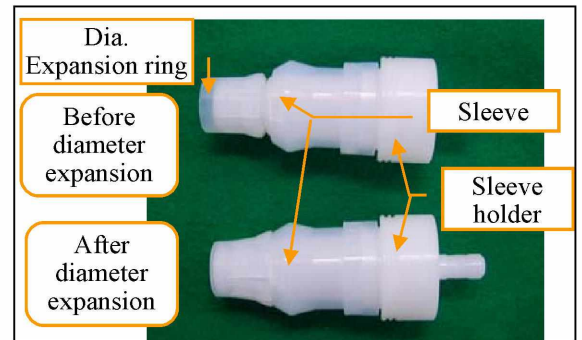

Fig. 16 - Setting the sleeve
- Install to insertion tool JT-A4 the sleeve holder and then the sleeve as shown in Fig.16 for the state before the diameter has been expanded.
- After setting the sleeve, push the diameter expansion ring into the sleeve until it clicks in place (see Fig.16 for the state after the diameter has been expanded and Table for applicable parts).